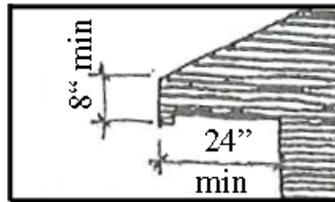

Figure 6
- Eaves that overhang a minimum of 24" with a minimum fascia depth of 8". See Figure 6.